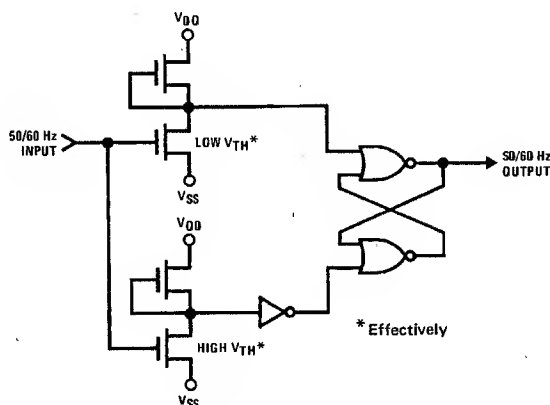

FIGURE 3. 50/60 Hz Input Shaping Circuit
**50 or 60 Hz Input:** A shaping circuit (*Figure 3*) is provided to square the 50 or 60 Hz input. This circuit allows use of a filtered sinewave input. The circuit is a Schmitt trigger that is designed to provide about 6V of hysteresis. A simple RC filter such as shown in *Figure 7*, should be used to remove possible line-voltage transients that could either cause the clock to gain time or damage the device. The shaper output drives a counter chain which performs the timekeeping function.